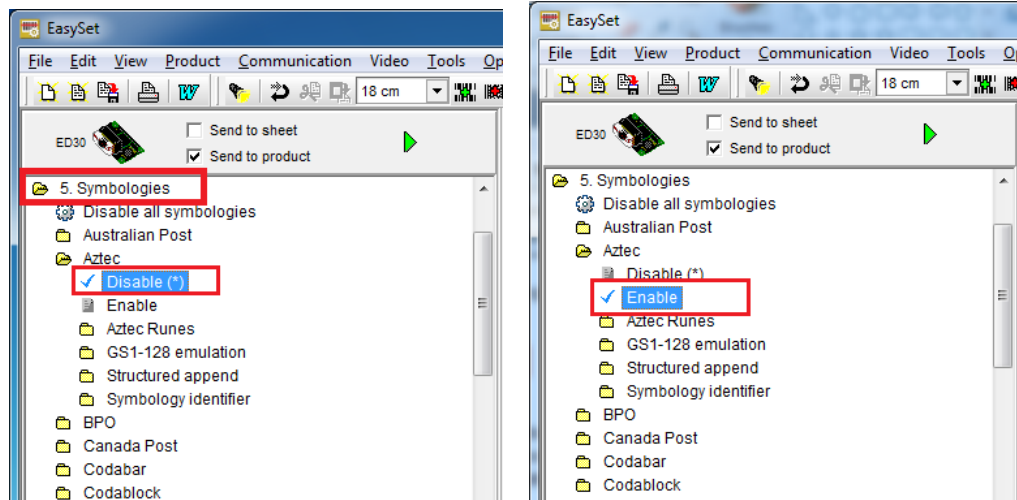

Figure 3-20: Symbologies
Step 2: Use the **Symbologies** section to setup the format that can be read by the barcode scanner (EA15). In the default setting, only the PDF417 format of 2-D barcodes is enabled. If other formats are needed, the user must enable them here. Take Aztec as an example. The Aztec is disabled (the Disable option is checked). Double click the **Enable** option to enable Aztec format. See **Figure 3-20**.